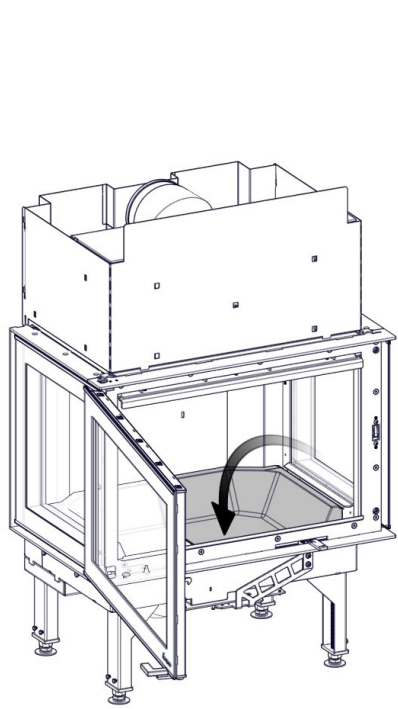

**FIG 10**
**Thermotte assembling FIG 10 - 14**